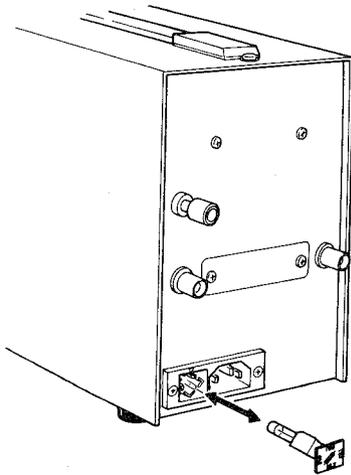

Figure 9— Replacing the e.
### (3) Replacing the fuse (see Figure 9)